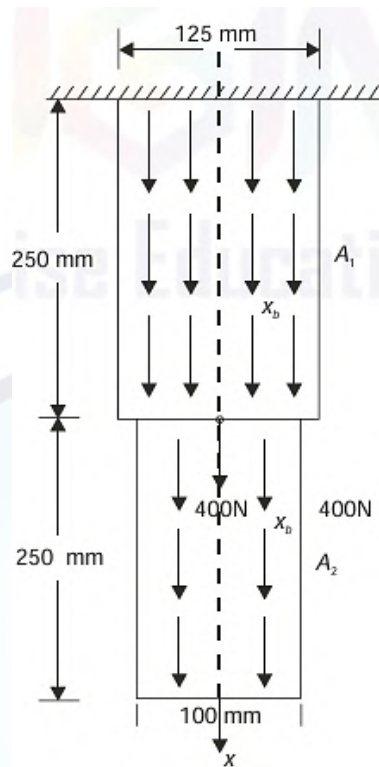

Figure 3:
5. a) Discuss the importance of assumptions and simplifications in mathematical modeling for finite element analysis. (3)
- b) The thin plate of uniform thickness 20 mm is as shown in Figure. 3. In addition to the self weight, the plate is subjected to a point load of 400 N at mid-depth. The Young's modulus is  $E = 2 \times 10^5 \text{ N/mm}^2$  and the unit weight is  $\rho = 0.8 \times 10^{-4} \text{ N/mm}^2$ . Analyse the plate after modeling it with two elements and find the stresses in each element. (7)
6. a) Outline the general steps involved in the finite element method for solving engineering problems. (3)